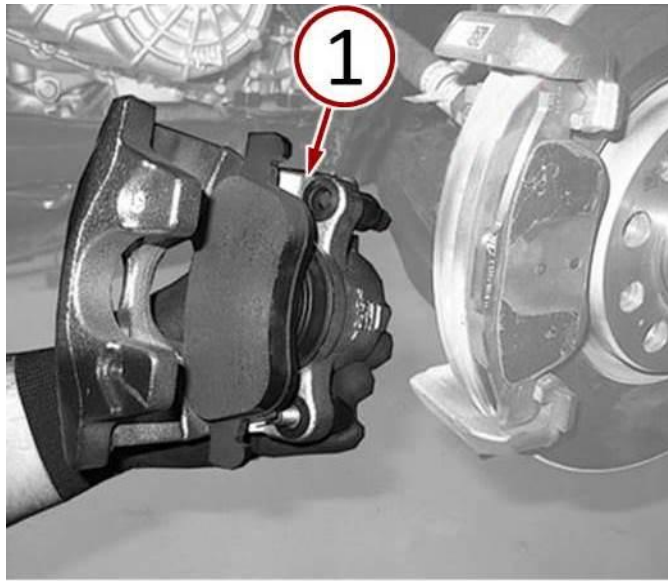

Fig. 3 Remove And Support Brake Caliper
6. Remove the brake caliper from the brake caliper adaptor and support the brake caliper in order to prevent damage to the brake hose (Fig. 3).